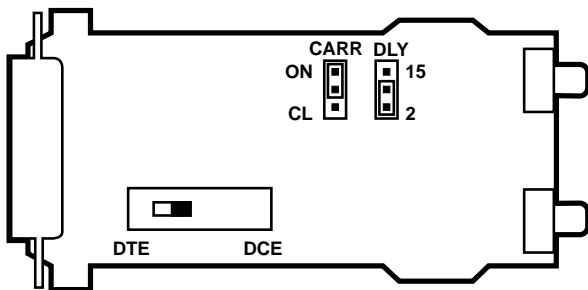

Fig. 3-1. Straps and Switch Locations.
3. Set the straps and switch using **Table 3-1** and **Figure 3-1** as guides. If the device connected to the Async Fiber Optic Modem is a DCE, set the DCE/DTE switch on the Async Fiber Optic Modem to DTE. If the device connected to the Async Fiber Optic Modem is a DTE, set the DCE/DTE switch on the Async Fiber Optic Modem to DCE.